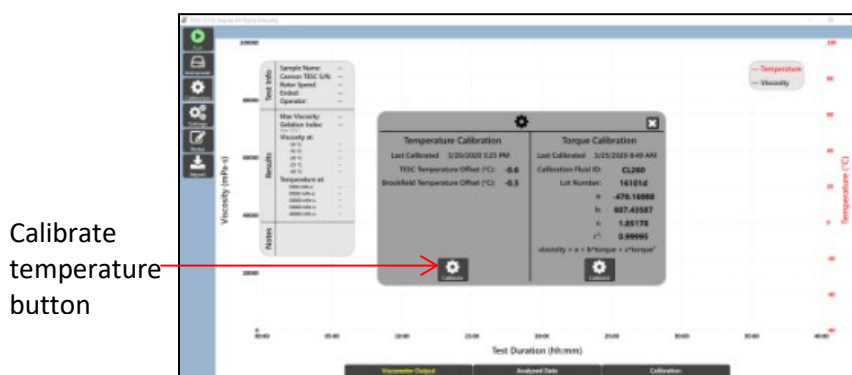

Figure 44: Calibrate Display Window
2. Click **Calibrate** in the software display window. Refer to Figure 44.